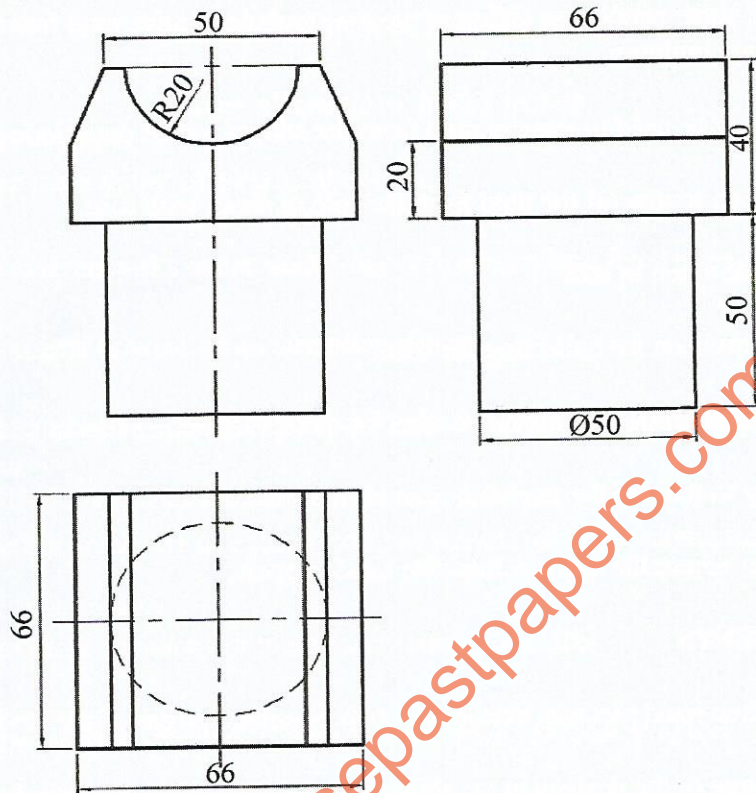

Figure 8
14. **Figure 8** shows three orthographic views of a block drawn in first angle orthographic projection.